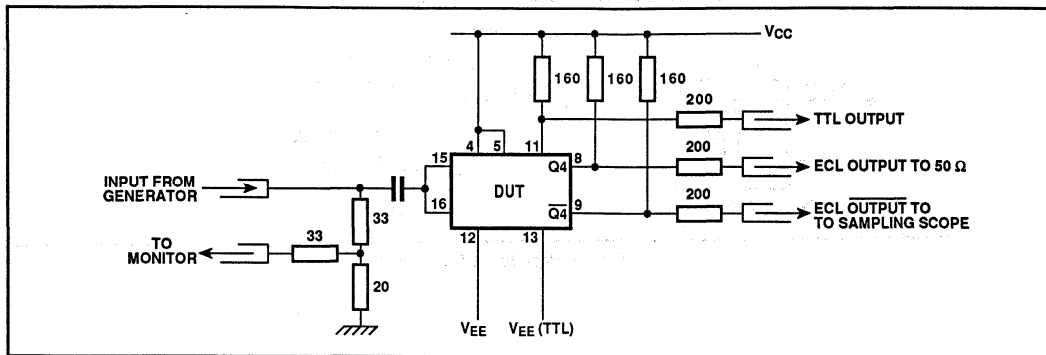

Fig. 6 Test circuit
- The test configuration for dynamic testing is shown in Fig.6.